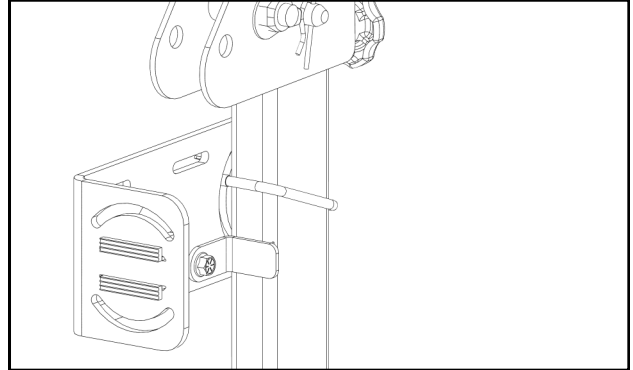

Fig. 1 (Bracket on inside of ROPS, facing outwards)
1. Figure 1 shows a ROPS bracket mounted to the inside surface of a vehicle ROPS with the bar mounting surface facing outwards. The bracket can be flipped so that the bar mounting surface is facing inwards.